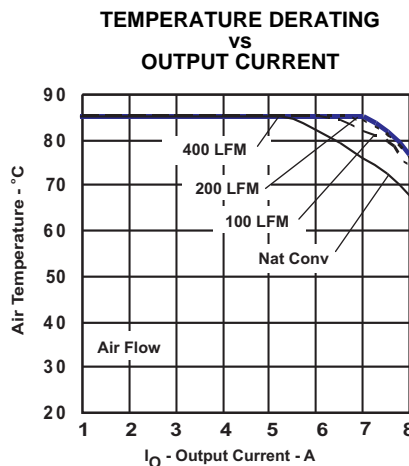

Figure 4.
- (9) The temperature derating curves represent the conditions at which internal components are at or below the manufacturer's maximum operating temperatures. The airflow direction is parallel to the long axis of the module. Derating limits apply to modules soldered directly to a 100 mm x 100 mm, double-sided PCB with 2 oz. copper. Applies to Figure 4.